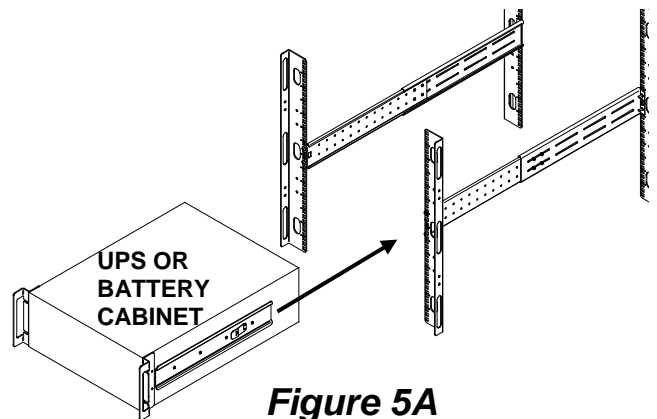
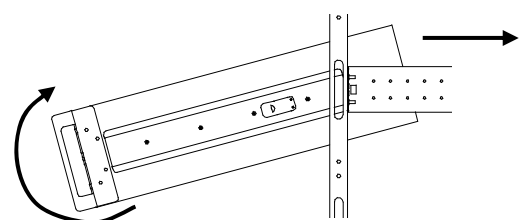

Figure 5A
Figure 5B
5. **(CAUTION: LIFTING EQUIPMENT INTO RACK MAY BE A TWO-PERSON JOB, DEPENDING ON WEIGHT OF EQUIPMENT. SEE EQUIPMENT'S USER MANUAL.)** Insert the equipment, with Inner Members attached from Step 4, into Bracket Assemblies by inserting top and bottom edges of Inner Members into the top and bottom, curved tracks of Front Members and sliding the equipment into Rack (See Figure 5A). Ends of Inner Members are tapered to allow rear of the equipment to be angled upward before insertion, if space allows. Then the rear, bottom edges of Inner Members can be placed into front edge of bottom tracks, and the front of the equipment can be tipped up into horizontal position to insert the top edges of Inner Members before sliding the equipment into Rack (See Figure 5B). The equipment should move smoothly into Bracket Assemblies. If not, recheck alignment of Front and Rear Members from Steps 2 and 3.